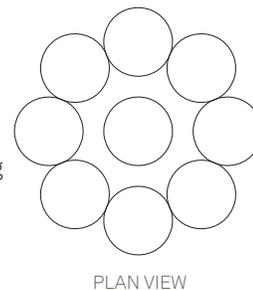

Figure 4. Views of completed fixture
- 2 Pass the fabric-wrapped electrical cords of each individual pendant through the skirt element taking care not to mar or bunch the fabric-covering. The narrower end of the skirt element should be oriented so it is facing up - the wider end of the skirt element should be facing down (Figure 4). The skirt element can be positioned anywhere along the length of the fixture but its position should be established now - it should not be moved later on in installation.